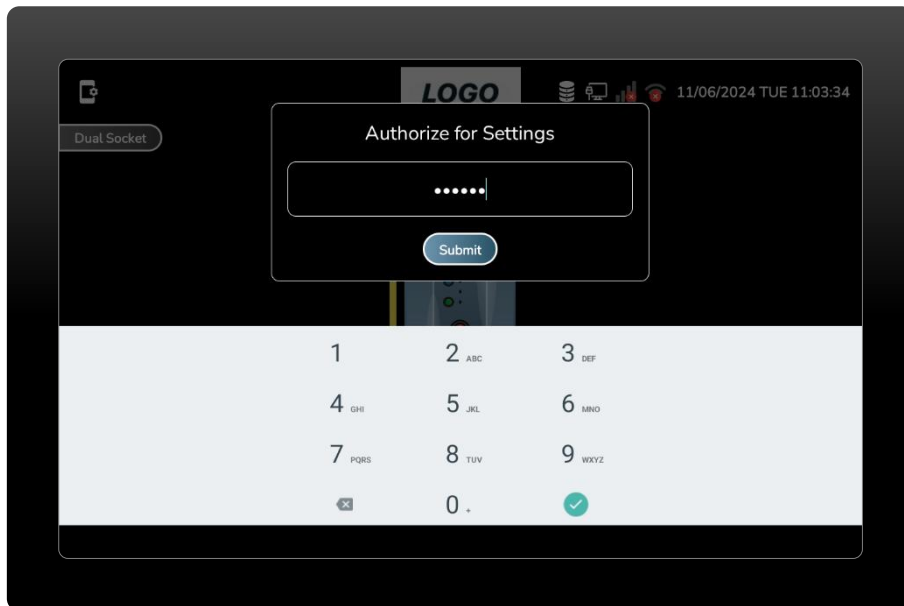

Figure 5 Enter Your 6-Digit Pin using the Onscreen Keyboard.
- Enter a 6-digit pin using the onscreen keyboard, then press the submit button. (Figure 5)